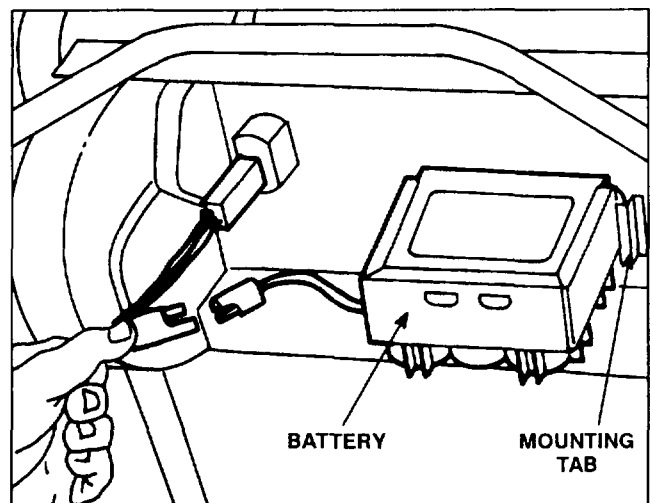

Figure 3
1. **CHARGE BATTERY**—Refer to Charging Battery, page 13. Slide battery, decal side up, between mounting tabs on back of control panel and connect wires (Fig. 3). Insert key into switch when ready to start engine.